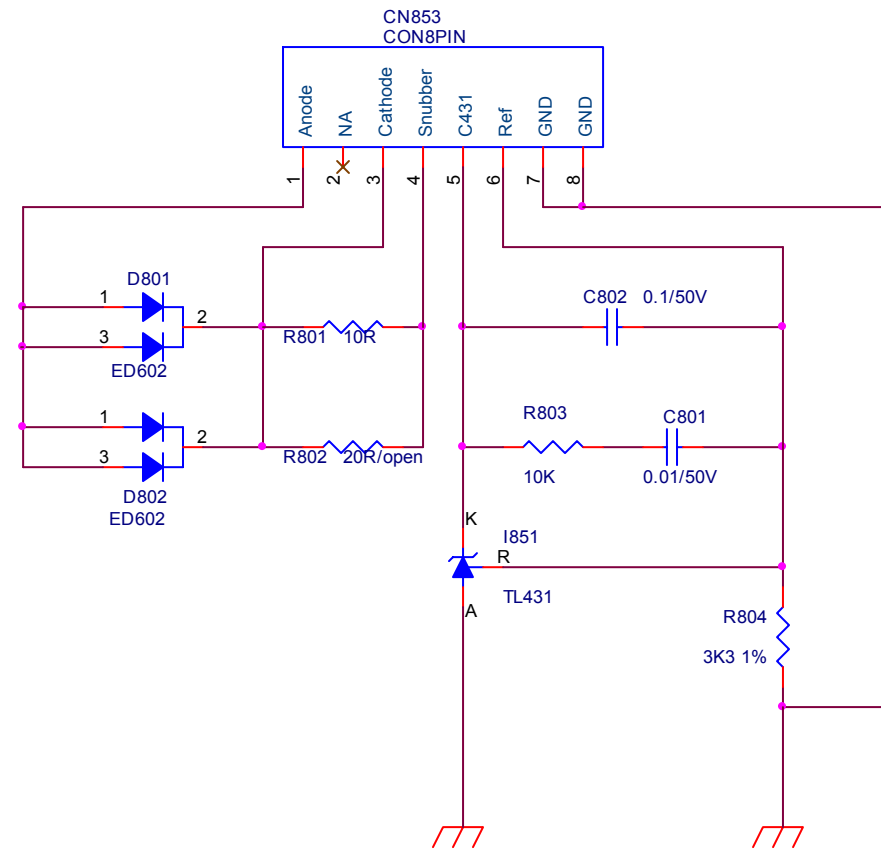

fig.7
2.2.4) DC 12V and 5V Output Circuit and Feedback circuit :(fig.7)